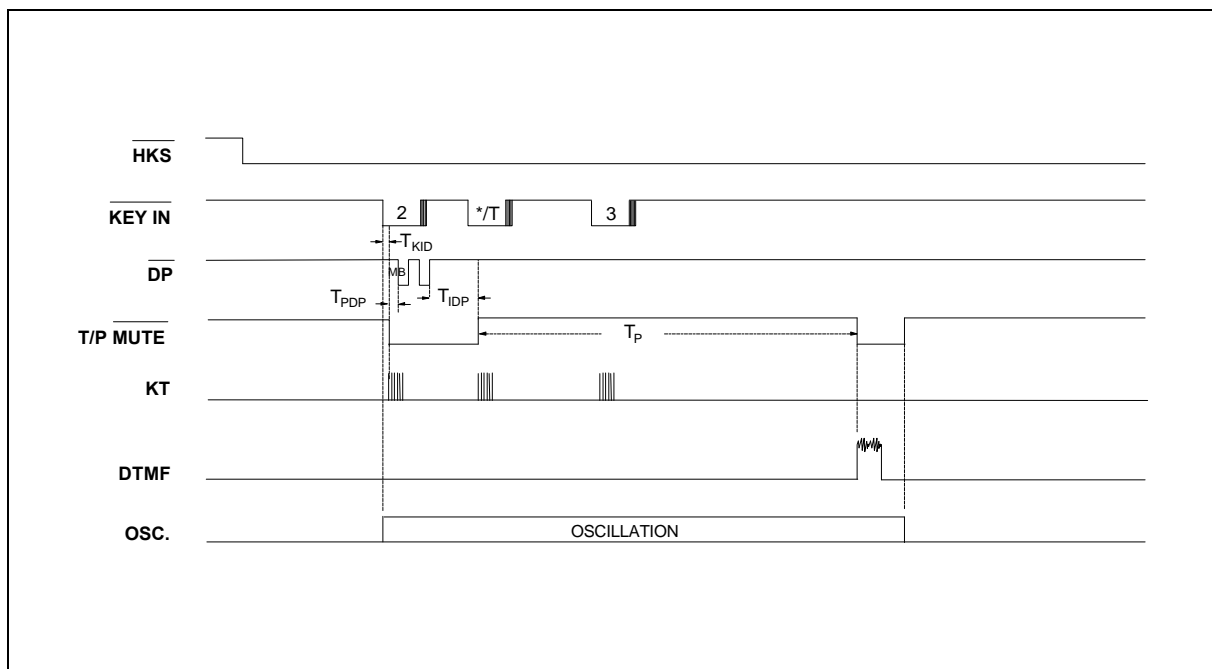

Figure 6. Pulse-to-tone Timing Diagram
4. The pulse-to-tone function timing diagram is shown in Figure 6.